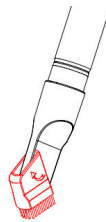

Fig.11
2. As in fig.11, open the other side with bristles of the compressed brush as the mark of an arrow to clean the sofa, the curtain and the dust on the ornaments.